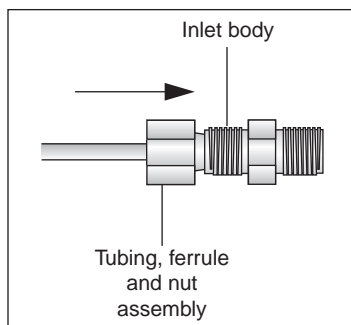

Figure 3-2. Swagelok and Inlet Connection
6. Slide the nut over the inlet body, as shown in Figure 3-2, and tighten until finger-tight.